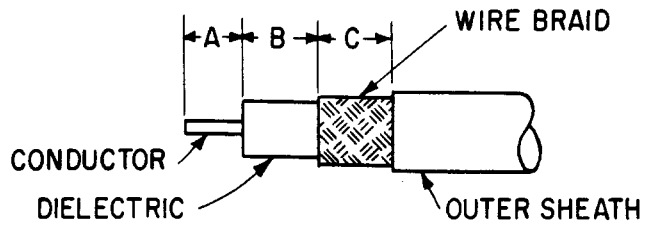

Fig. 3 — Portion of Skinned, Stripped, and Butted Coaxial Office Cable, for Use with Table A in Determining Variable "A," "B," and "C" Dimensions
3.05 Fig. 3 shows a portion of coaxial office cable prepared for splicing or termination, and is for use with Table A in determining the "A," "B," and "C" dimensions required for skinning, stripping, and butting.
Values of Variable Dimensions for Preparation of Coaxial Office Cable (See Fig. 3)